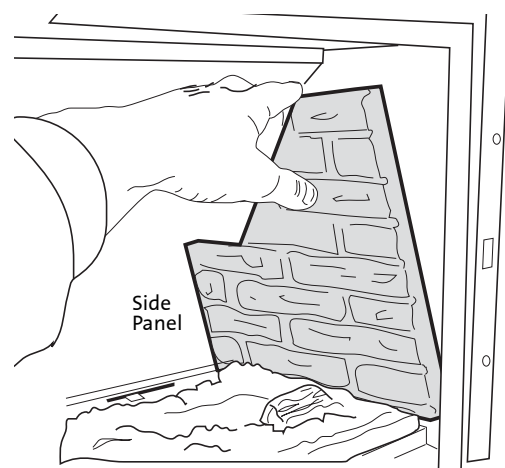

Figure 20. Install the Side Panel.
4. **Install the Side Panels.** Engage the bottom edge of each side panel between the Logset Base and the firebox wall and push the panel forward against the front lip of the firebox opening. See Fig.20.